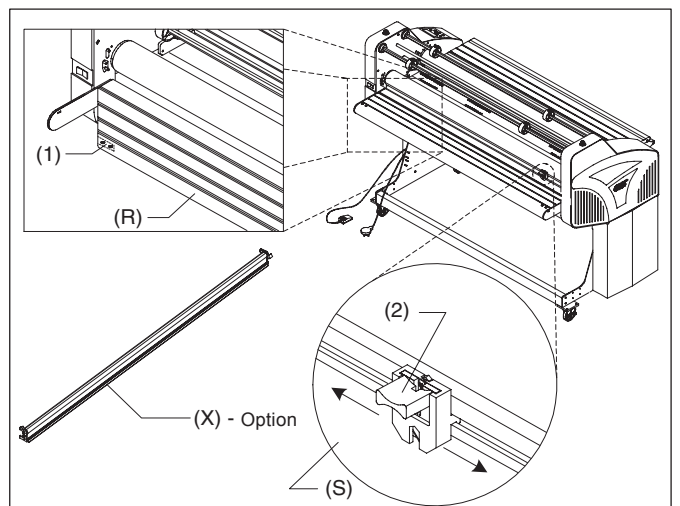

Fig 20
R. REAR TABLE: (Figure 20) Provides a working surface when operating the machine from the rear. This table may also be lowered when webbing for roll to roll applications.
S. REAR SLITTER: (Figure 20) Used to cut the film web where it exits the rear of the laminator.
X. SEPARATOR BAR OPTION: (Figure 20) Required if running Accushield® material.